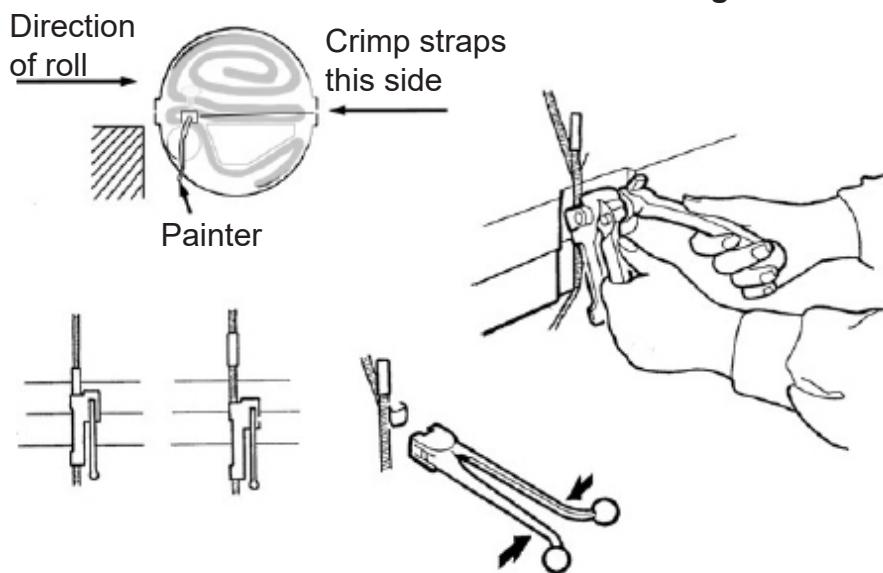

FIGURE 861
CAUTION: FOR ALL LIFERAFTS, IT IS ESSENTIAL THAT CRIMPS ARE ATTACHED ON THE OPPOSITE SIDE OF THE CONTAINER TO THE ROLL OF THE LIFERAFT. REFER TO FIGURE 861.
- 6.46.1 Adjust the ends of each strap so that the outer most strap end is facing upwards and is approximately 25 mm (1") above the rim of the container. Refer to FIGURE 861.
- 6.46.2 Apply the tensioning tool to the strap at a point half way across the two rims. Operate the handle to tension the strap until the base of the tensioning tool rests in the lower container rim. Secure the strap with a crimp. Refer to FIGURE 861, using the crimping tool.
- 6.48 Put 'DO NOT CUT' tape over the top of the straps in each recess of the container. Refer to FIGURE 861.